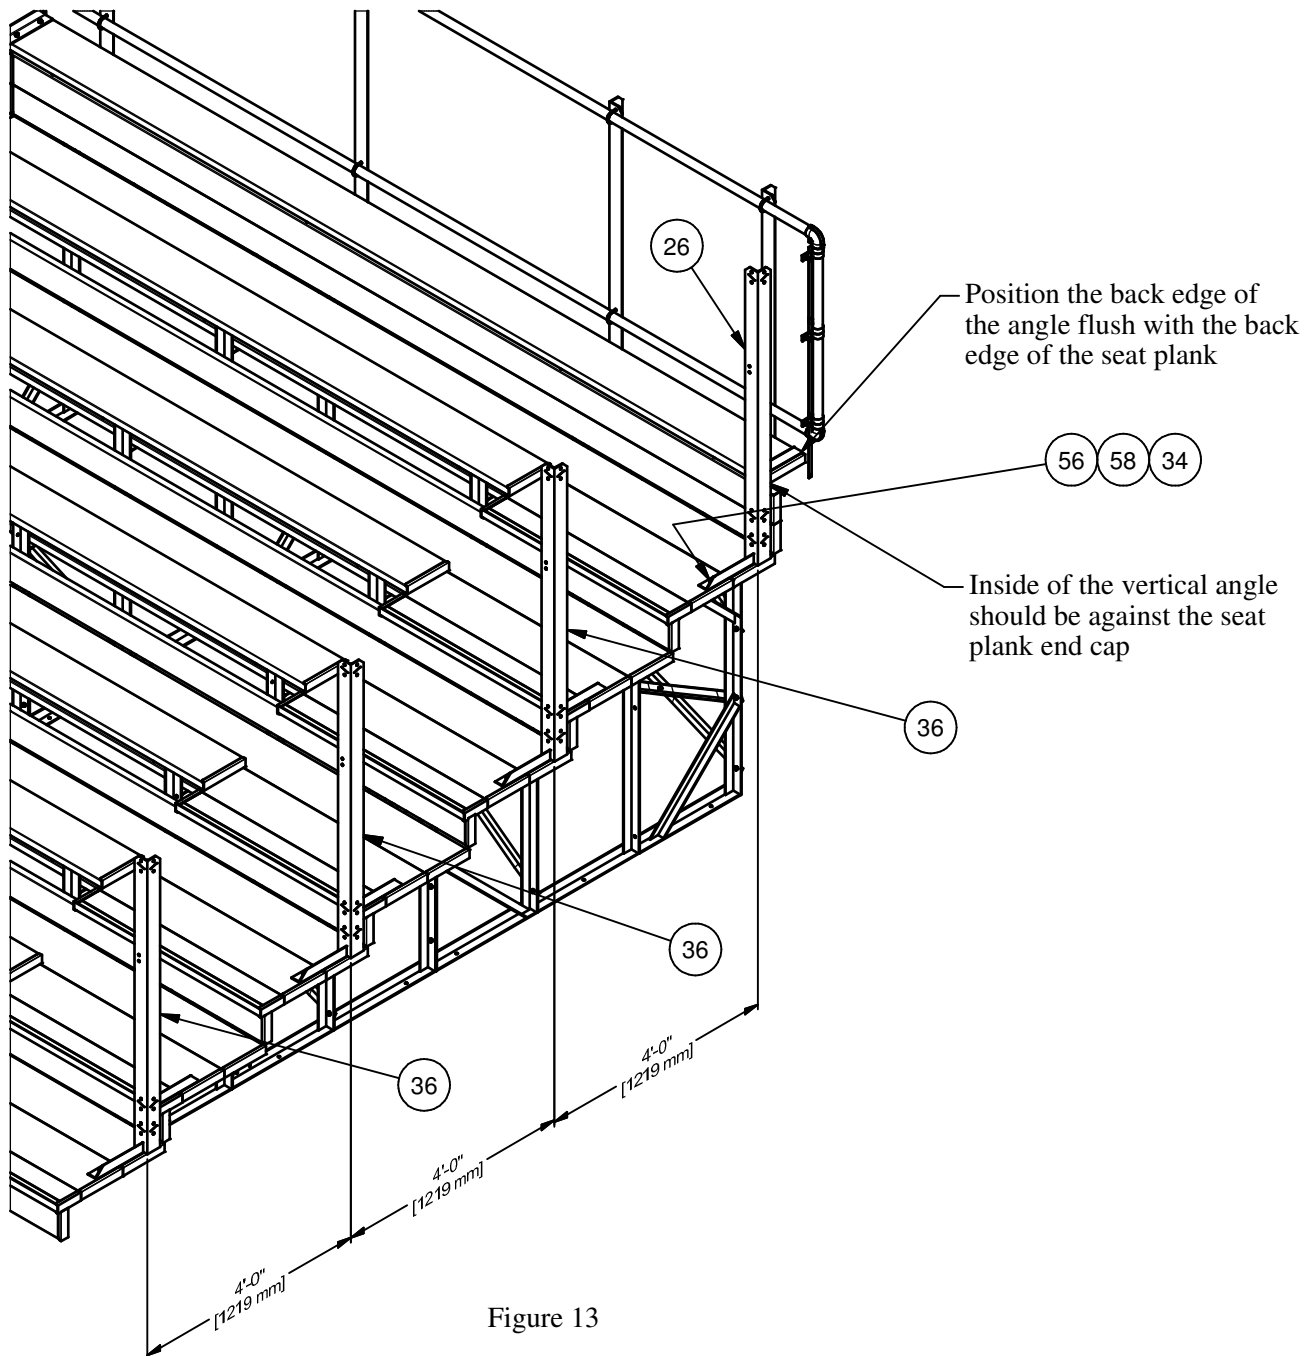

Figure 13
19. Install the LH side rail weldments onto the aisle end of the bleacher. Locate one seat vertical on the top row and three aisle verticals on the 6th row, 4th row, and on the 2nd row. Position the verticals as shown in Figure 13. On the top row vertical, use the holes in the angles as guides and drill the four 3/8" holes through the seat plank (2 holes) and the foot planks (2 holes). On the remaining verticals, use the holes in the angles as guides and drill the four 3/8" holes through the foot planks (2 holes each level). Attach the verticals using the 3/8" x 2.5" hex bolts and 3/8" whizlock nuts. Make sure the clamp plate is placed on the underside of the plank before installing the nuts. Tighten all bolts and nuts securely.